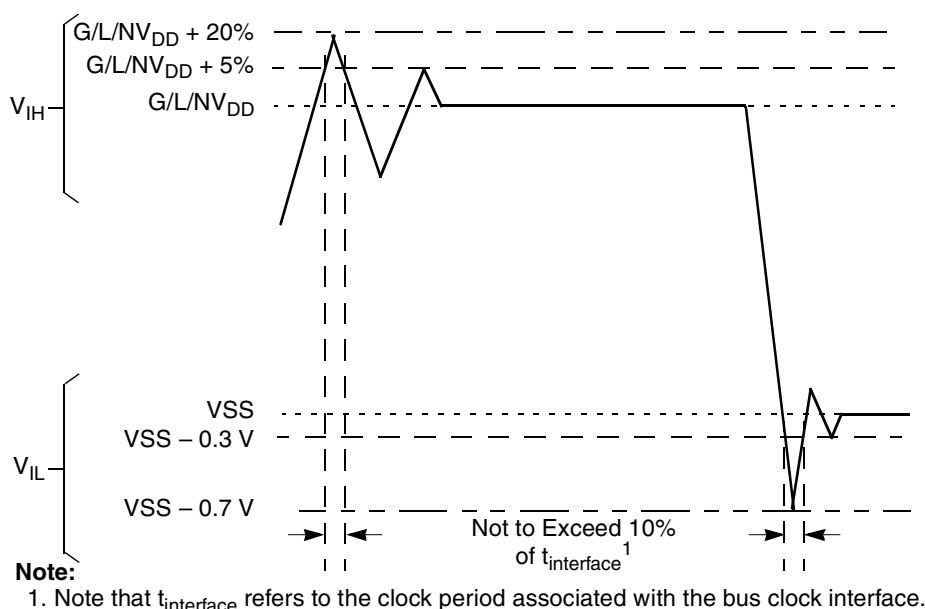

Figure 2. Overshoot/Undershoot Voltage for GVDD/NVDD/LVDD
- (M, L, O)VIN and MVREF may overshoot/undershoot to a voltage and for a maximum duration as shown in Figure 2
Figure 2 shows the overshoot and undershoot voltages at the interfaces of the device.